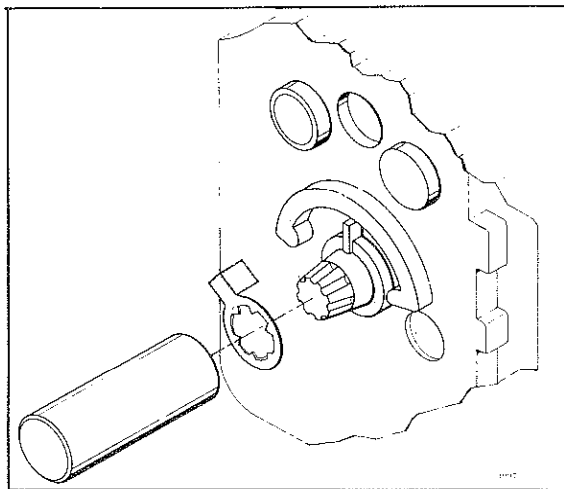

Fig. 1—Installing limit stop.
- c. Press down firmly, making sure that setting is not moved. (See Fig. 1.)